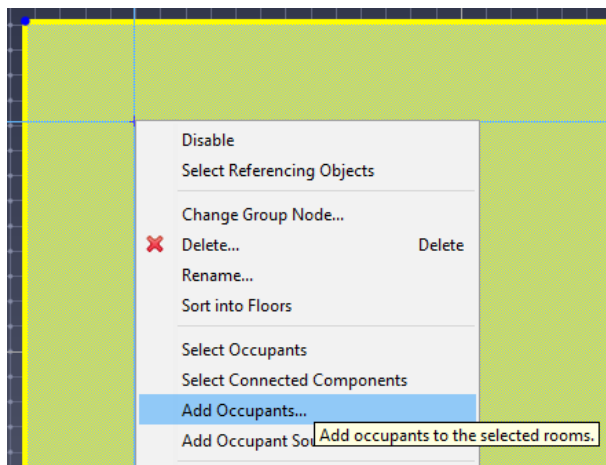
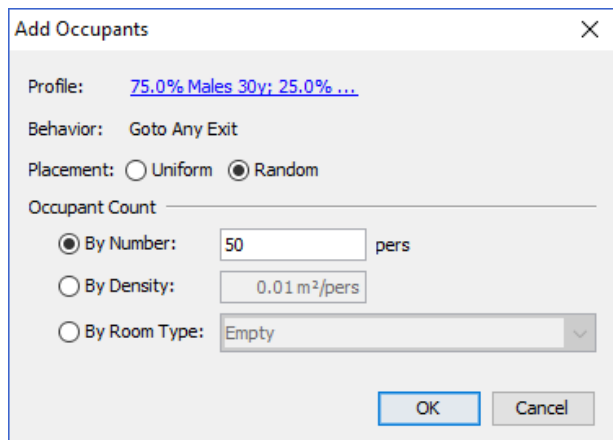

Figure 115. Add occupants in context menu
Figure 116. Add occupants dialog
1. Select the desired rooms and choose **Add Occupants** from the **Model** menu or the right-click menu as shown in Figure 115. This will bring up the Add Occupants dialog (Figure 116). For an explanation of the dialog's options, please see Section 5.4.2.